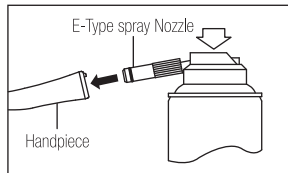

Fig. 15
- 2) Insert the Spray Nozzle into the rear of the handpiece. Hold the handpiece and spray 2-3 times for approximately 2-3 seconds each time. Apply lubricant until it expels from the handpiece head for at least 2 seconds (Fig. 15).
- 3) Lubricate handpiece by using NSK PANA SPRAY Plus / PANA SPRAY (Fig. 15) or NSK automatic handpiece cleaning and lubrication system.